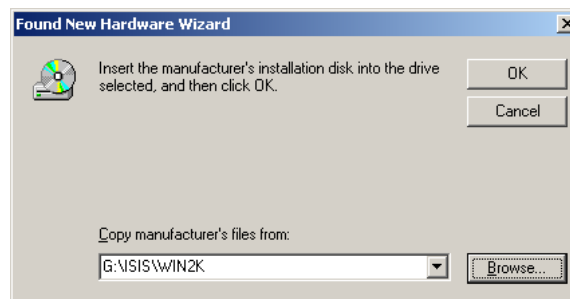

Figure 10. Type Path to Driver
- 7 Type the following location into the text box—G:\ISIS\WIN2K (where G is the letter of your CD-ROM drive)—as shown in Figure 10, then click **OK**.